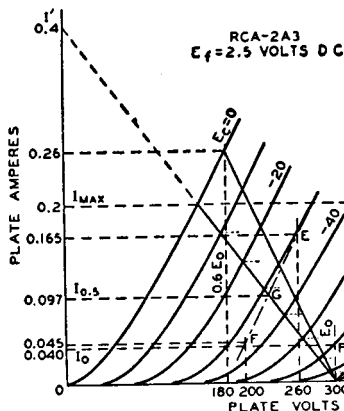
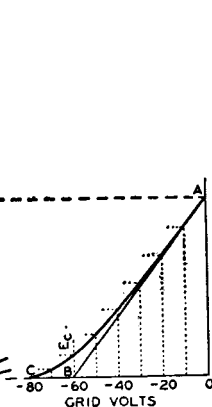

Fig. 24—Graphic calculations for class AB_1 amplifier using the 2A3 power triode.
Fig. 25—Instantaneous curve for class AB_1 amplifier.
point D in Fig. 24. Its position is not affected by the operating grid bias provided the plate-to-plate load resistance remains constant.
In general, for any load line through point D, Fig. 24, the plate-to-plate load resistance in ohms of a push-pull amplifier is $R_{pp} = 4E_o/I'$, where I' is the plate-current value in amperes at which the load line as projected intersects the plate-current axis, and E_o is in volts. This formula is another form of the one given under push-pull class A amplifiers, $R_{pp} = 4(E_o - 0.6E_o)/I_{max}$, but is more general. Power output = $(I_{max}/\sqrt{2})^2 \times R_{pp}/4$, where I_{max} is the peak plate current at zero grid volts for the load chosen. This formula simplified is $(I_{max})^2 \times R_{pp}/8$. The maximum-signal average plate current is $2I_{max}/\pi$ or $0.636 I_{max}$; the maximum-signal average power input is $0.636 I_{max} \times E_o$.
Example: Fig. 24 illustrates the application of this method to a pair of 2A3's operated at $E_o = 300$ volts. Each tube has a plate-dissipation rating of 15 watts. The method is to erect a vertical line at $0.6E_o$, or at 180 volts, which intersects the $E_c = 0$ curve at the point $I_{\max} = 0.26$ ampere. Using the simplified formulas, the following values are obtained:
The operating bias and the zero-signal plate current may then be found by use of a curve which is derived from the plate family and the load line. Fig. 25 is a curve of instantaneous values of plate current and dc grid-bias voltages taken from Fig. 24. Values of grid bias are read from each of the grid-bias curves of Fig. 24 along the load line and are transferred to Fig. 25 to produce the curved line from A to C. A tangent to this curve, starting at A, is drawn to intersect the grid-voltage abscissa. The point of intersection, B, is the operating grid bias for fixed-bias operation. In the example, the bias is -60 volts. Refer back to the plate family at the operating conditions of plate volts = 300 and grid bias = -60 volts; the zero-signal plate current per tube is seen to be 0.04 ampere.
tortion in a class AB_1 amplifier using triodes is very small and is largely canceled by virtue of the push-pull connection. Third-harmonic distortion, however, which may be larger than permissible, can be found by means of composite characteristic curves. A complete family of curves can be plotted, but for the present purpose only the one corresponding to a grid bias of one-half the peak grid-voltage swing is needed. In the example, the peak grid voltage per tube is 60 volts, and the half value is 30 volts. The composite curve, since it is nearly a straight line, can be constructed with only two points (see Fig. 24). These two points are obtained from deviations above and below the operating grid and plate voltages.
These steps provide points at 260 volts and 0.165 ampere (E), and at 200 volts and 0.045 ampere (F). A straight line through these points is the composite curve for a bias of -30 volts, shown as a long-short dash line in Fig. 24. At the intersection of the composite curve and the load line, G, the instantaneous composite plate current at the point of one-half the peak signal swing is determined. This current value, designated $I_{0.5}$ and the peak plate current, I_{max} , are used in the following formula